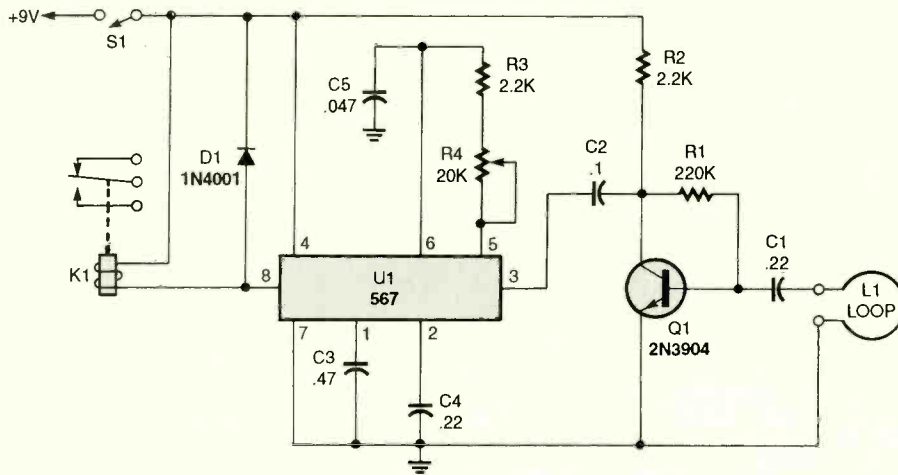

Fig. 6. Acting as an inductive receiver, this circuit has Q1 as a preamp and U1 as a tone decoder. When the appropriate signal is received, K1 is activated.
**PARTS LIST FOR THE REMOTE-CONTROL RECEIVER (Fig. 6)**
transmitter) is shown in Fig. 6. The receiver loop (the same loop as used in Fig. 2) is connected to a single-stage, common-emitter, amplifier circuit. The amplifier's output is fed to the